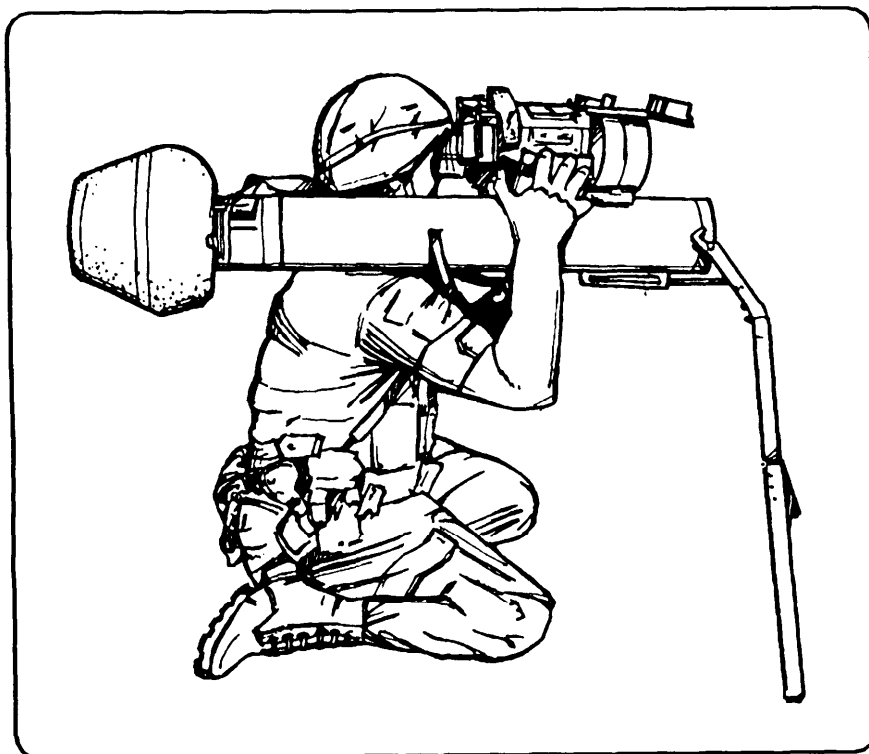
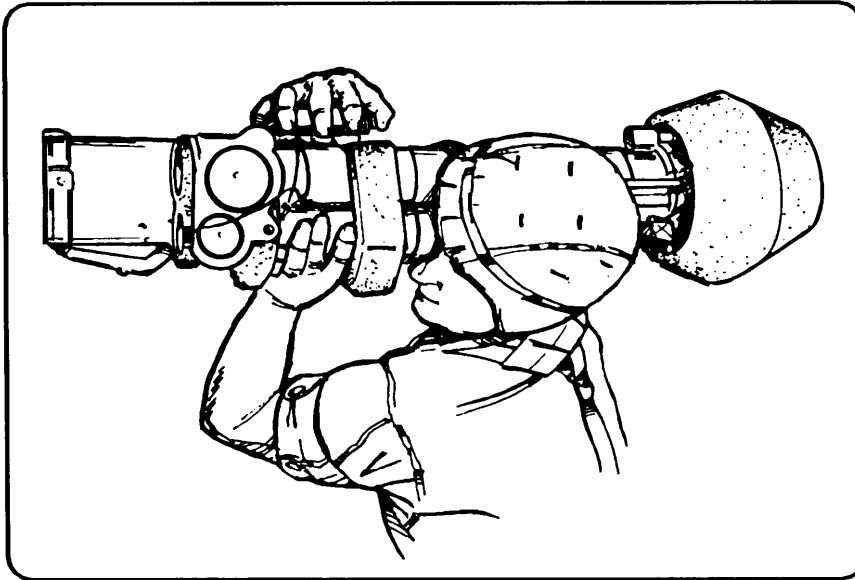

Figure 7-4. Kneeling position.
Figure 7-5. Correct eye and hand positions.
c. Kneeling Position. Demonstrate the position, then have the soldiers assume it (Figure 7-4).
(1) Kneel on both knees and spread them a comfortable distance apart. Position the bipod so that you have to lean forward to position the eye in the eye guard.
(2) Grasp the tracker as previously described. Maintain the same upper body position as in the other firing positions. Place the round on the shoulder muscle, keeping it tight against the neck (Figure 7-5).
(3) As the buttocks are lowered to the heels, take the slack out of the bipod. Try to sit on the heels to provide a stable platform for firing.